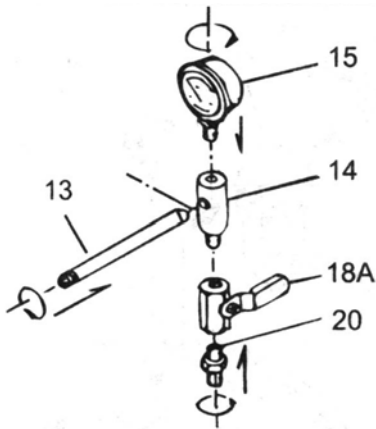

Fig. 1
1. See figure 1 for assembly of the inlet (14). First install the pressure gauge (15) on the inlet and turn it so that it is visible above the tank. Then connect the valve (18-A) below the inlet. Connect the nipple (20) below the valve. Connect the connection pipe (13) to the inlet.